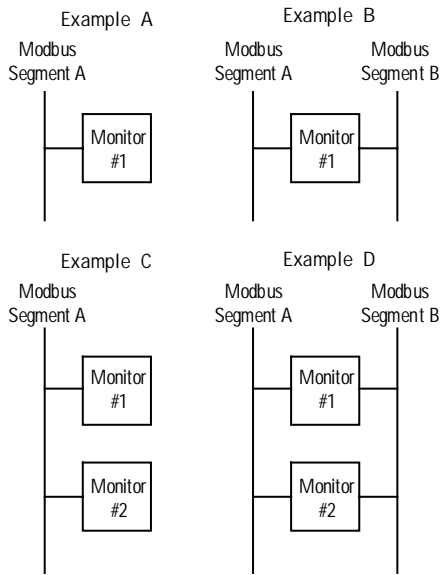

Figure 14. Valid Modbus Monitor network architectures.
10. Modbus Monitors (dual-port version) may not be wired in any configuration other than the four shown in Figure 14. Although the Monitor's RS-485 ports have separate addresses, you may NOT wire the same Modbus network to both ports. A two-port Modbus Monitor must be wired to two separate Modbus networks.